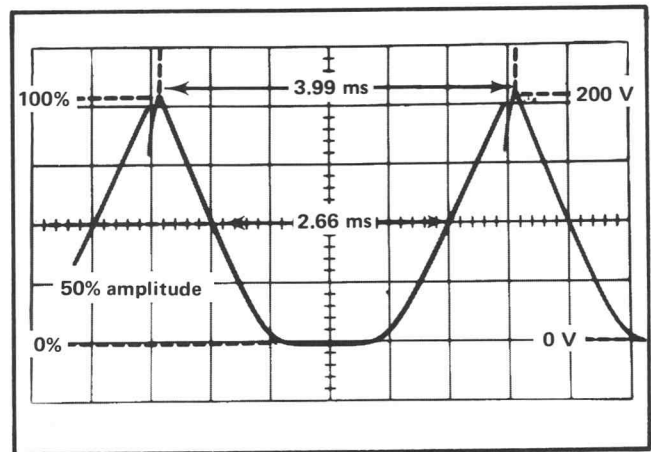

Fig. 5-7. Dynamic focus waveform.
c. CHECK—Test oscilloscope display for a waveform which has an amplitude of approximately 215 volts and a width at its 50% point of 2.66 milliseconds. See Fig. 5-7.